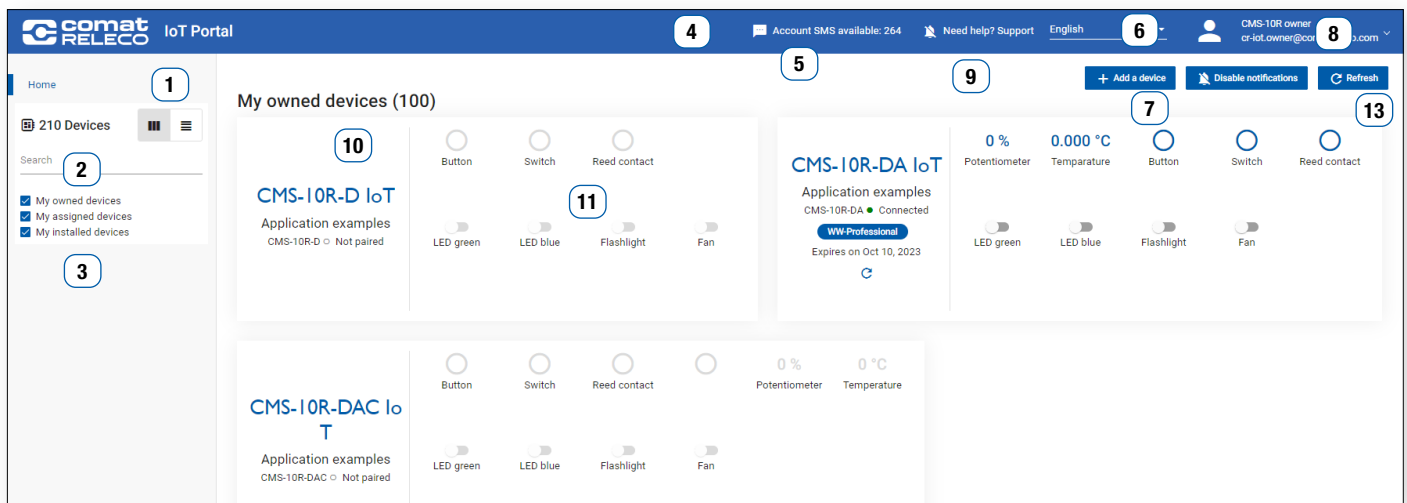
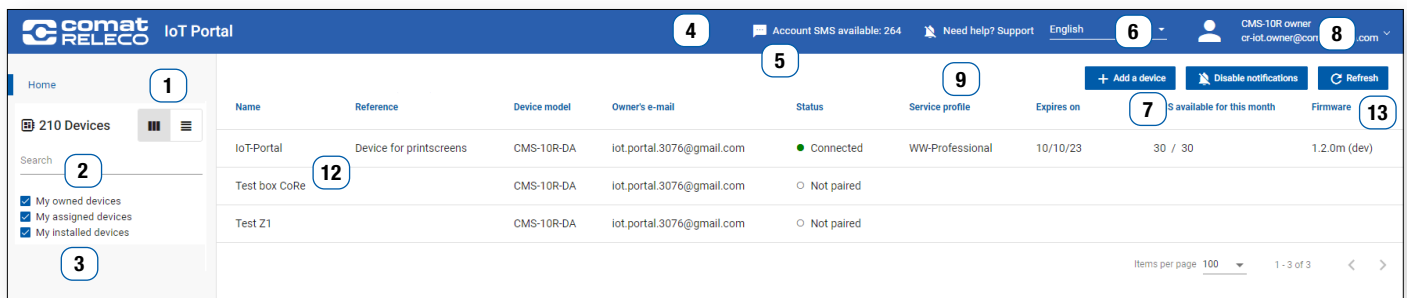

Figure 33
Figure 34
Select the desired device in the device view (Figure 33).
The devices overview is displayed in a device view (Figure 33) or in a list view (Figure 34). Different information is sometimes visible.
The account holder's details are entered/changed in this menu (see Figure 35, Figure 33 (8) and Figure 34 (8)).
The SMS packages purchased here belong to the **Owner** and can be used for all devices owned by this owner. (see Figure 33 and Figure 34 (4))